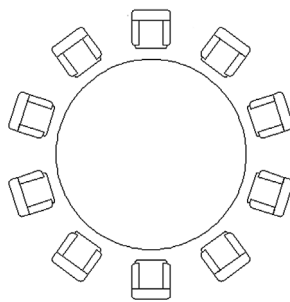

FIGURE 8.3 Polar array completed.
Step 6. Your array is essentially done, so just press Enter to accept. If you wish, experiment with some of the variables such as Fill and Between. Also note how the chairs are rotated to face the table via the Rotate Items button that was automatically set (under Properties tab). You can, of course, turn that feature off. The completed polar array is shown in Fig. 8.3.